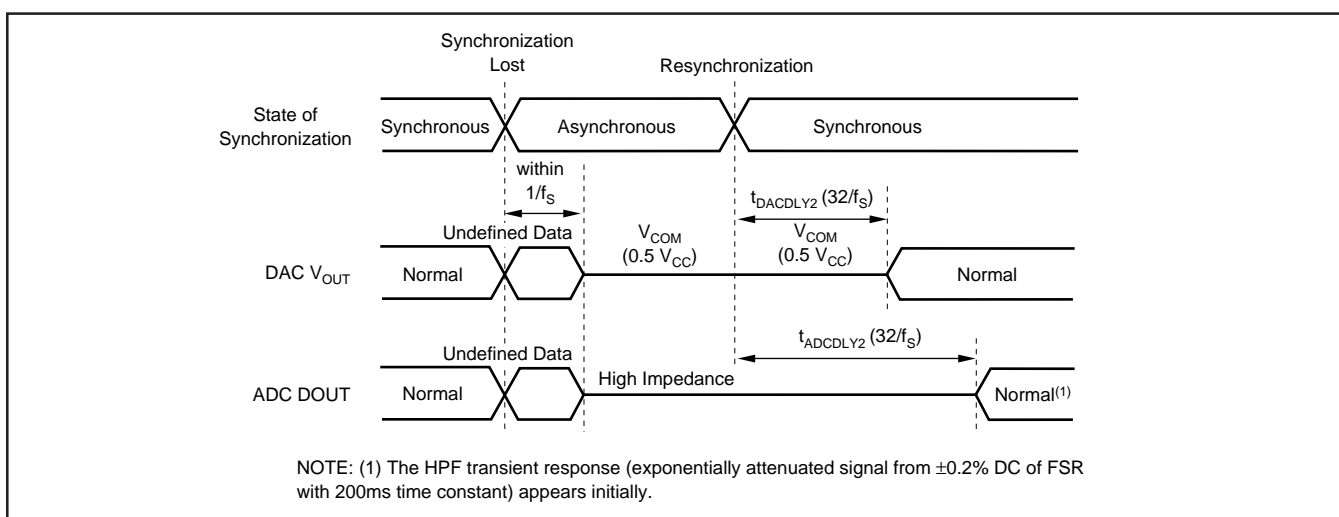

FIGURE 10. Loss of Synchronization Operation and Timing.
The PCM3500 requires that FS and BCK be synchronous with the system clock. Internal circuitry is included to detect a loss of synchronization between FS and the system clock input. If the phase relationship between FS and the system clock varies more than  $\pm 1.5$  BCK periods, the PCM3500 will detect a loss of synchronization. Upon detection, the DAC output is forced to  $0.5V_{CC}$  and the DOUT pin is forced to a high impedance state. This occurs within one sampling clock (FS) period of initial detection. Figure 10 shows the loss of synchronization operation and the DAC and ADC output delays associated with it.